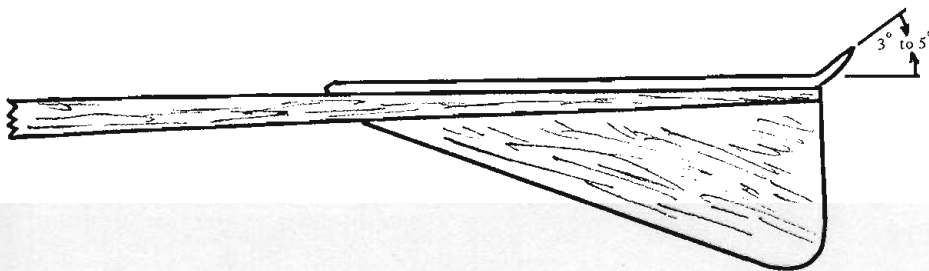

FIGURE 5
*Dive*—The glider noses down rapidly. Carefully using a sharp knife, cut two 3/8" slits where the elevator is glued to the body forming two trim tabs (Fig. 5). Moisten the tabs and warp them up 5°. If this does not stop the dive, begin to trim some weight from the nose until a stall appears. Add a small amount of weight to the nose, and the glider is trimmed.